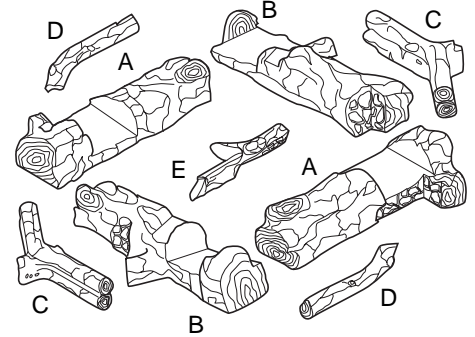

Figure 43 - Log Set (9 Pieces)
6. Figure 43 shows the log set. Logs "A" have the knot at the end of the log. Logs "B" have the knot at the middle of the log. Twigs "C" have the shape of a "Y". Twigs "D" have the shape of bent twigs. Twig "E" is a straight twig which is placed across the top of Logs "B".